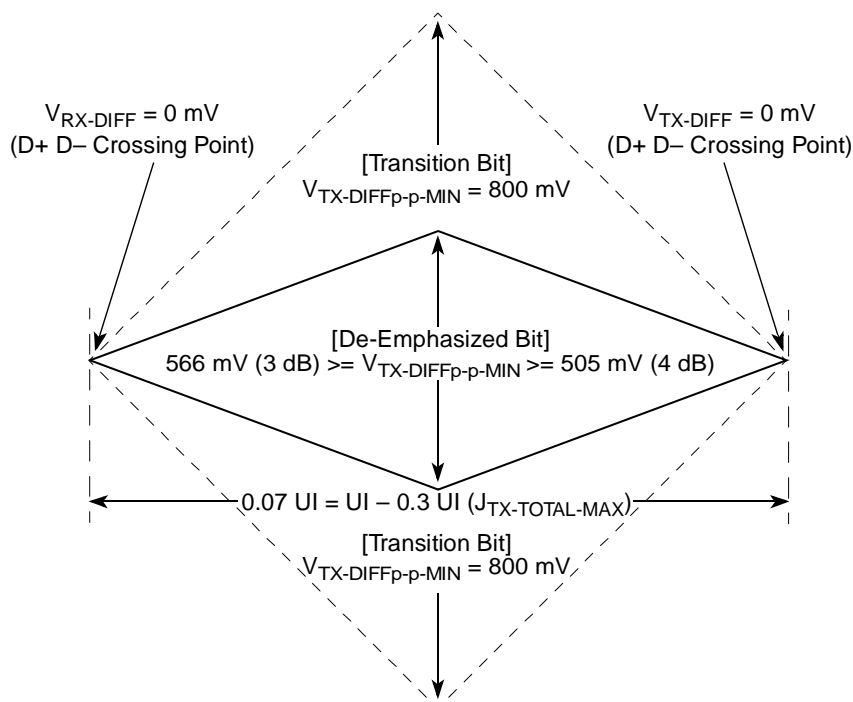
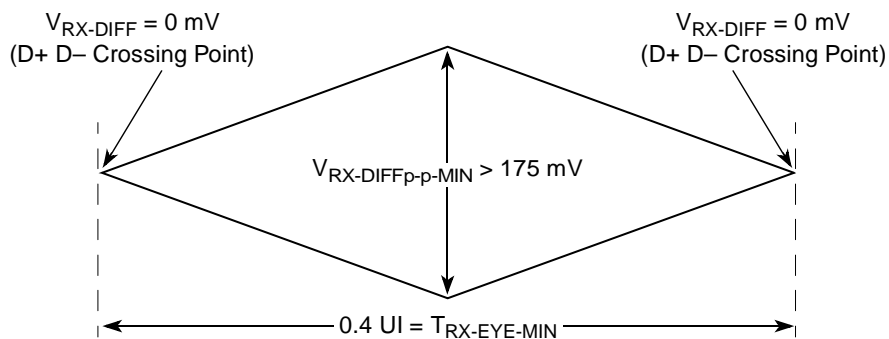
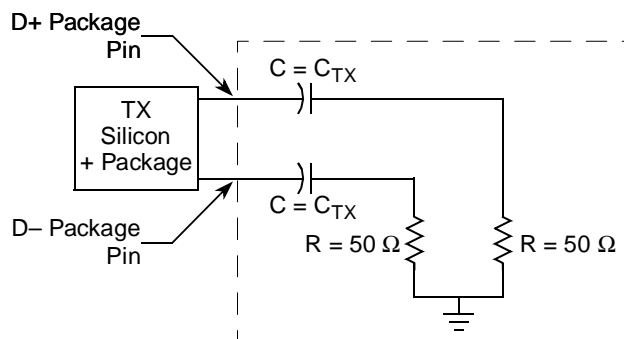

Figure 48. Minimum Transmitter Timing and Voltage Output Compliance Specifications
Figure 49. Minimum Receiver Eye Timing and Voltage Compliance Specification
Figure 50. Compliance Test/Measurement Load
2. Specified at the measurement point into a timing and voltage compliance test load as shown in Figure 50 and measured over any 250 consecutive TX UIs. (Also refer to the transmitter compliance eye diagram shown in Figure 48.)
4. The transmitter input impedance shall result in a differential return loss greater than or equal to 12 dB and a common mode return loss greater than or equal to 6 dB over a frequency range of 50 MHz to 1.25 GHz. This input impedance requirement applies to all valid input levels. The reference impedance for return loss measurements is 50  $\Omega$  to ground for both the D+ and D– line (that is, as measured by a vector network analyzer with 50- $\Omega$  probes—see Figure 50). Note that the series capacitors  $C_{\text{TX}}$  is optional for the return loss measurement.
5. Measured between 20%–80% at transmitter package pins into a test load as shown in Figure 50 for both  $V_{\text{TX-D+}}$  and  $V_{\text{TX-D-}}$ .
The TX eye diagram in Figure 48 is specified using the passive compliance/test measurement load (see Figure 50) in place of any real PCI Express interconnect +RX component.
2. Specified at the measurement point and measured over any 250 consecutive UIs. The test load in Figure 50 should be used as the RX device when taking measurements (also refer to the receiver compliance eye diagram shown in Figure 49). If the clocks to the RX and TX are not derived from the same reference clock, the TX UI recovered from 3500 consecutive UI must be used as a reference for the eye diagram.
4. The receiver input impedance shall result in a differential return loss greater than or equal to 15 dB with the D+ line biased to 300 mV and the D– line biased to –300 mV and a common mode return loss greater than or equal to 6 dB (no bias required) over a frequency range of 50 MHz to 1.25 GHz. This input impedance requirement applies to all valid input levels. The reference impedance for return loss measurements for is 50  $\Omega$  to ground for both the D+ and D– line (that is, as measured by a vector network analyzer with 50- $\Omega$  probes—see Figure 50). Note: that the series capacitors CTX is optional for the return loss measurement.
The RX eye diagram in Figure 49 is specified using the passive compliance/test measurement load (see Figure 50) in place of any real PCI Express RX component.
Note: In general, the minimum receiver eye diagram measured with the compliance/test measurement load (see Figure 50) will be larger than the minimum receiver eye diagram measured over a range of systems at the input receiver of any real PCI Express component. The degraded eye diagram at the input receiver is due to traces internal to the package as well as silicon parasitic characteristics which cause the real PCI Express component to vary in impedance from the compliance/test measurement load. The input receiver eye diagram is implementation specific and is not specified. RX component designer should provide additional margin to adequately compensate for the degraded minimum receiver eye diagram (shown in Figure 49) expected at the input receiver based on some adequate combination of system simulations and the return loss measured looking into the RX package and silicon. The RX eye diagram must be aligned in time using the jitter median to locate the center of the eye diagram.
The reference impedance for return loss measurements is 50. to ground for both the D+ and D- line (that is, as measured by a vector network analyzer with 50-Ω probes—see Figure 50). Note that the series capacitors, CTX, are optional for the return loss measurement.
The AC timing and voltage parameters must be verified at the measurement point, as specified within 0.2 inches of the package pins, into a test/measurement load shown in Figure 50.